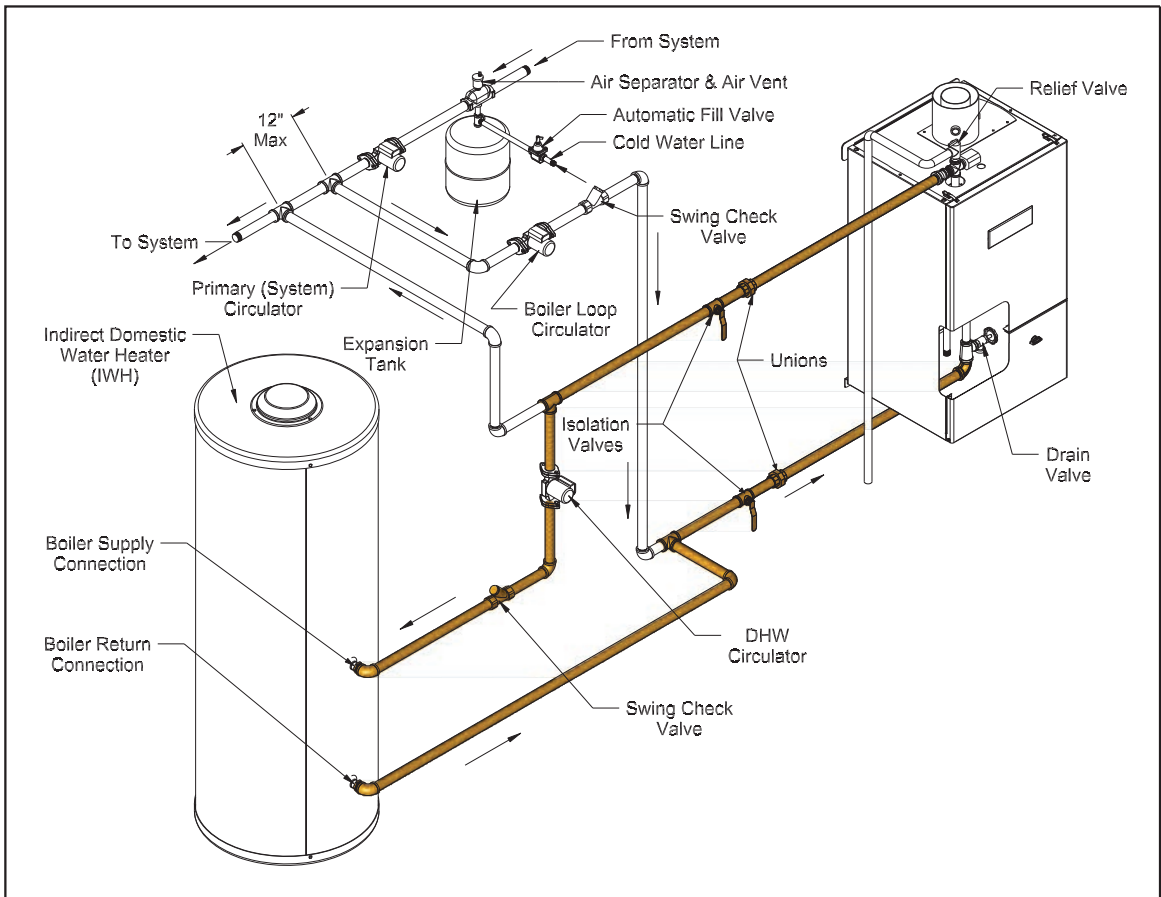

Figure 9.4b: Piping Method #1 - Indirect Water Heater Loop Piping (Shaded)
- a) Count all fittings in the planned Indirect Water Heater Loop (the indirect water heater loop consists of the shaded piping in Figure 9.4b). In doing so, you will be counting some piping and fittings which are common to the heating system secondary (“boiler loop”) piping and which were counted in Step 2a above. Do not count the elbows or fittings supplied with the boiler.